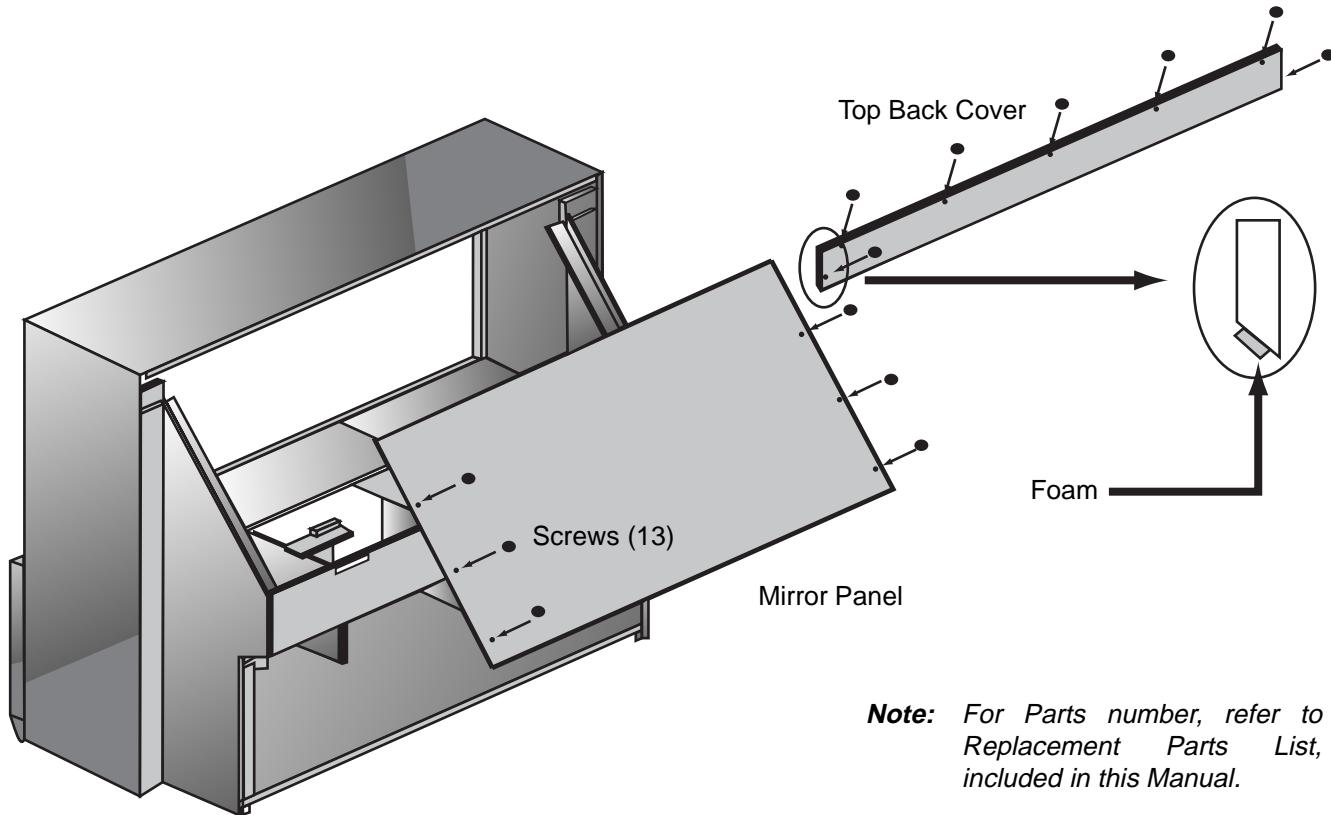

Figure 10. Cabinet Top and Mirror Panel Installation
Follow the procedure below for installation. Refer to Fig. 10 for further instructions.
1. Attach an adhesive foam strip to the top back cover, as illustrated in Fig. 10.
2. Secure the top back cover on the cabinet using 7 screws, as illustrated in Fig. 10.
3. Carefully secure the mirror panel on the cabinet using 6 screws, as illustrated in Fig. 10.